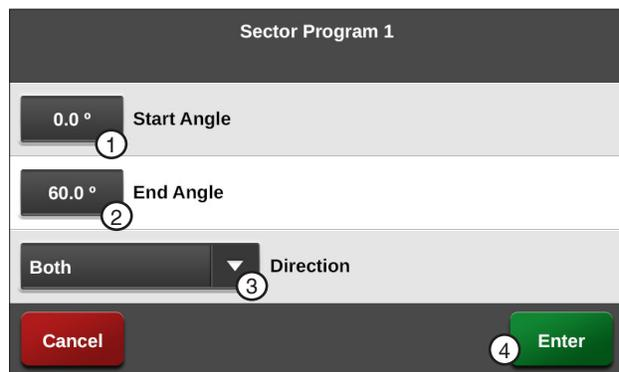

Figure 144-2 1. Start Angle 4. Enter
6. Select the **End Angle** field. Refer to Figure 144-2.